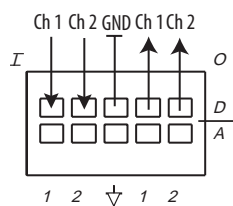

Figure 2-4
2. Connect the other end of this cable to the front panel data terminal block connector on the Mini-HDMI-AD (see Figure 2-4).